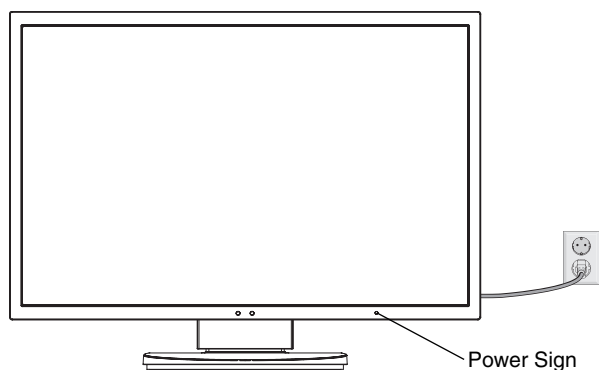

Figure E.1
8. Turn on the computer and the monitor by pressing the power key on the front bezel (**Figure E.1**).